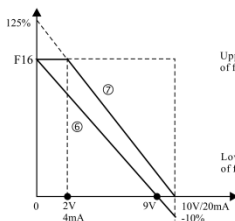
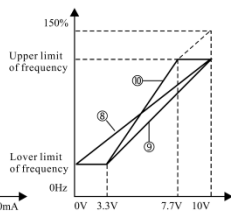

Figure 4
Figure 5
* Please refer to Figure 4 and Figure 5 and see the description of parameters along different curves in the table below :